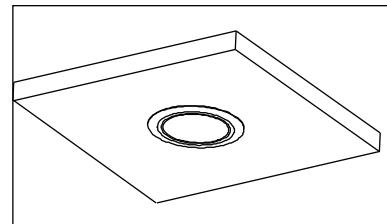

Figure 6 / Figura 6 / Schéma 6
6. Turn the power back on. If the module doesn't illuminate within 5 seconds, turn power off, carefully remove the module and double check all wiring. (Figure 6)